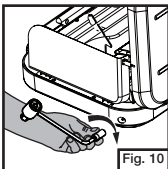

Fig. 10
- Screw regulator into stove hand tight. (Fig. 10)